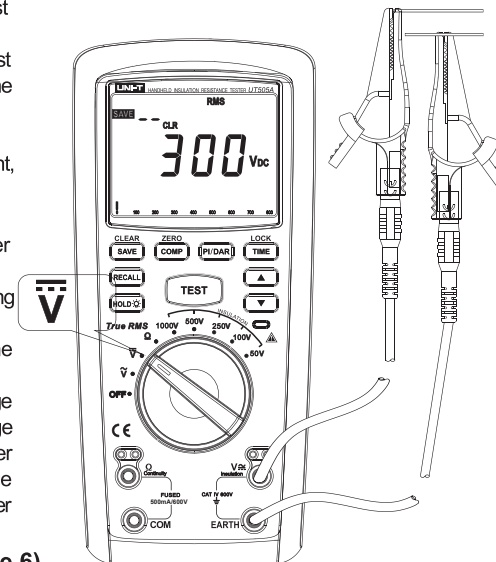

Figure 5
2. DC voltage measurement (See Figure 5)
- ① Insert red test pen in “ \sim V” jack (red hole) and black test pen in “EARTH” jack (black hole).
- ② Push the rotating switch to the gear “ \bar{V} ” and connect test pen in parallel with the power source or to both ends of the load to be measured.
- ③ Directly read the measured voltage value from display.
- ④ To save the measured voltage value during measurement, just push the button “SAVE”.